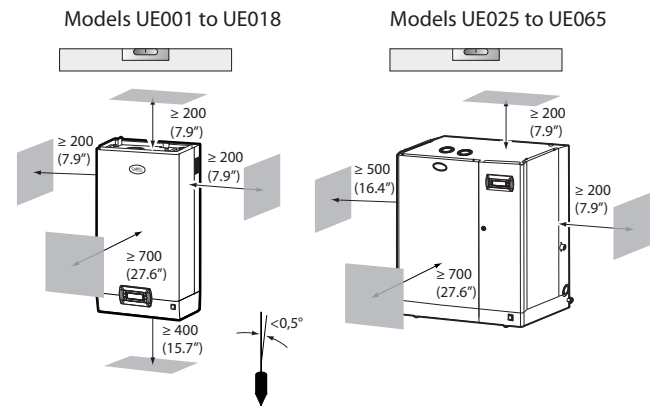

Fig. 1.b
- make sure the humidifier is level, allowing the minimum clearances (see Fig. 1.b) for maintenance operations.
Fit the humidifier on the wall using the support bracket and the screw kit supplied (for the dimensions in mm see Fig. 1.d).